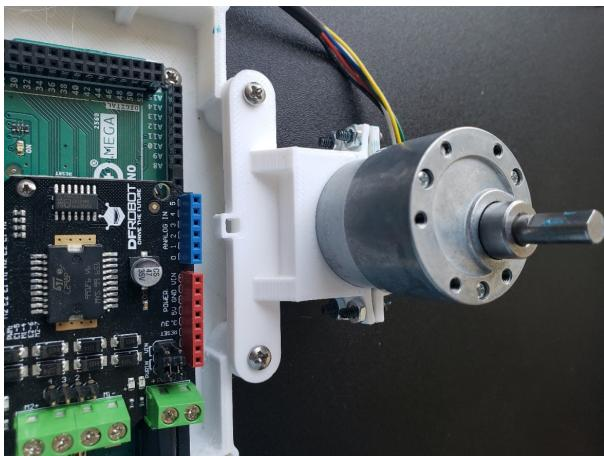

Figure 4: Motor mounted on the base.
6. Then, take the two **#5-40 3/8"** screws and attach motor clamp A to the base as shown in Figure 4.
7. Clamp the DC motor between motor clamps A and B using the four **#4-40 3/8"** screws and the four #4-40 hex nuts as shown in Figure 4. The clamp is plastic, it will break if you over tighten the nuts. Just tighten them enough to make sure that the motor does not rotate. Check that they are tight periodically throughout the semester.